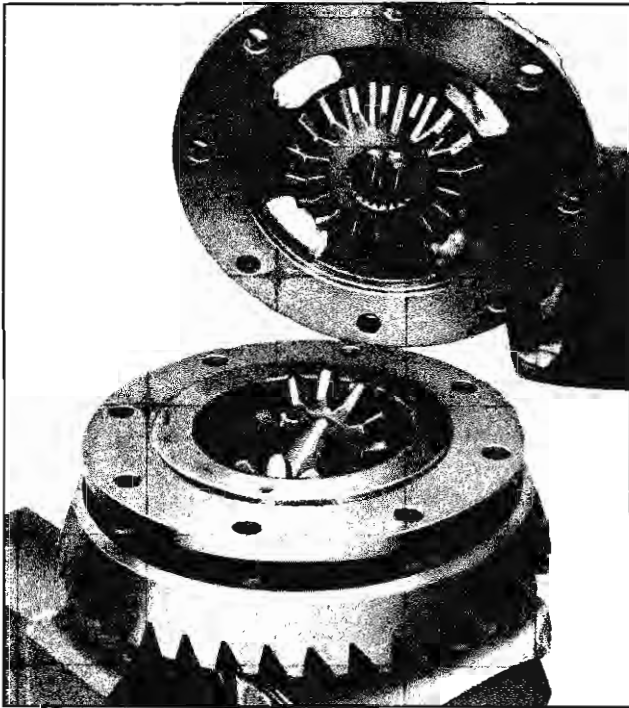

Fig. 4-33 Separating Cover and Case
6. Separate cover and case (Fig. 4-33).